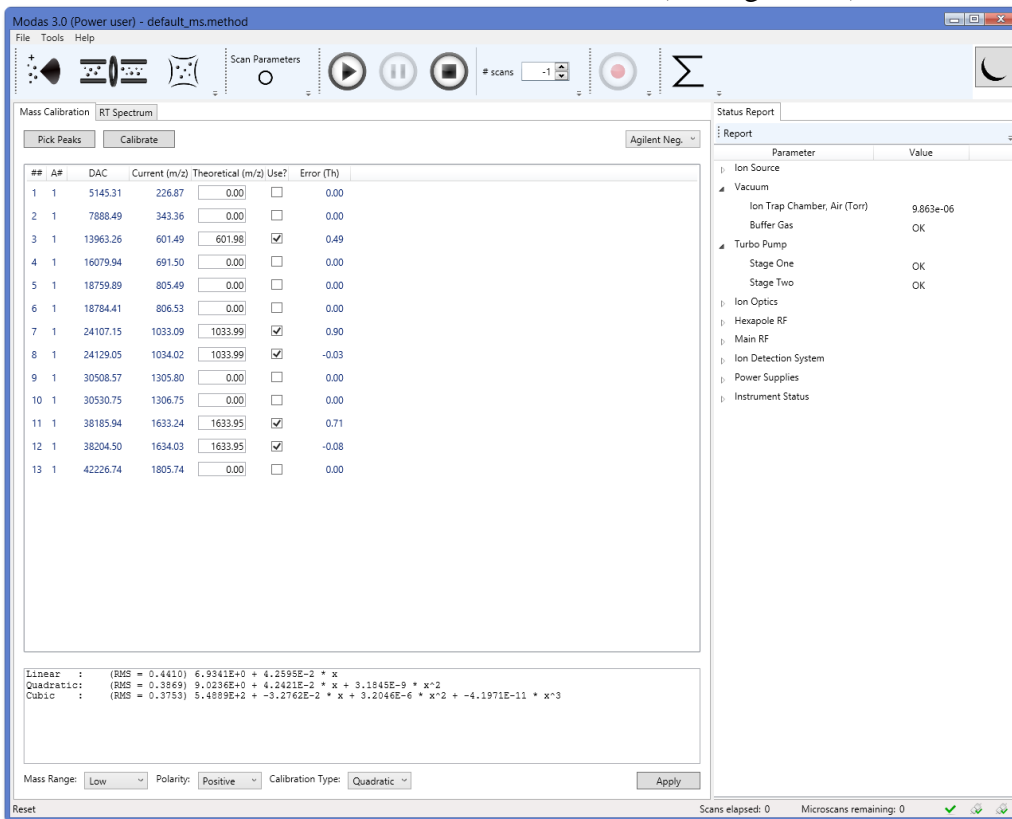
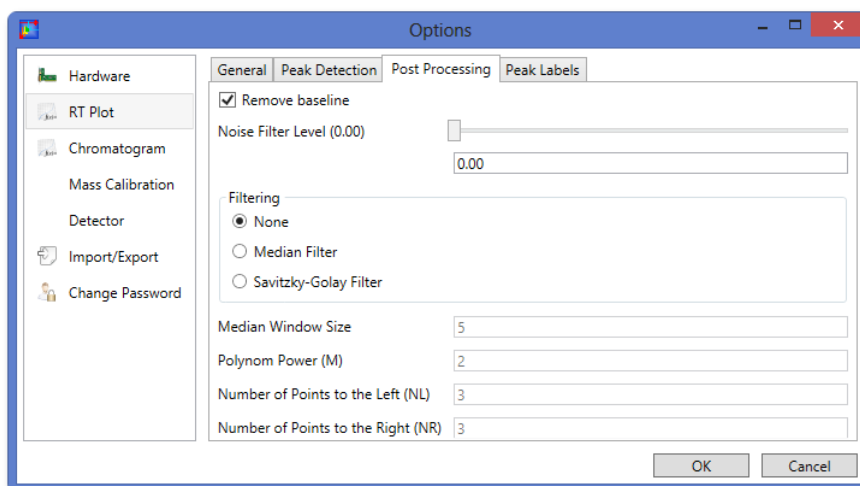

Figure 7.5. The Calibration Values are Calculated.
Figure 7.7. Setting Noise Filter Level to Zero.
Once finished with peak selection, click “Calibrate” button; the newly calculated calibrations will be seen below the table (see Figure 7.5).
As shown in Figure 7.5, three types of calibration curves are calculated: linear, quadratic, and cubic. Any of the calibrations can be used by MODAS. Note: linear calibration provides the RMS error of 0.455 Th across the spectrum, while the quadratic RMS is ten times more precise. The complex cubic approximation provides similar result. Typically the quadratic approximation provides a more accurate mass compared with a linear function, while cubic gives no essential advantage. It is recommended selecting the calibration type: “**Quadratic**”.
3. Set Noise Filter Level to zero. Go to Tools->Options>RT Plot>Post Processing as shown in Figure 7.7, then click OK:
- The stepwise increase of the multiplier voltage (Figure 7.7) from -1.8kV, step 100V, acquiring the spectrum at each step, until the “dark count” spikes level in the range of 100...1000 is achieved. The typical spectrum is shown in Figure 7.5. This is the adjusted value for the Multiplier voltage. **DO NOT EXCEED** the multiplier voltage above -2.5kV. If the noise level at -2.5kV is still below 100, it is an indication that the detector needs to be replaced.
- Save the adjusted multiplier voltage as a default value. Go to Tools->Options->Detector dialog (Figure 7.7). Set the adjusted multiplier value in the appropriate field and then click the **OK** button. The multiplier voltage is saved as the default.